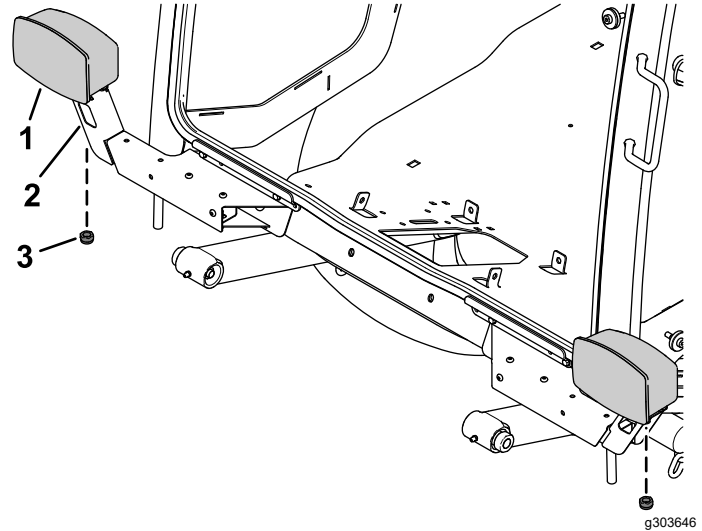

Figure 16
- Secure the left light assembly and right light assembly to the left light mount and right light mount using the hex nut on the light assemblies (Figure 16).